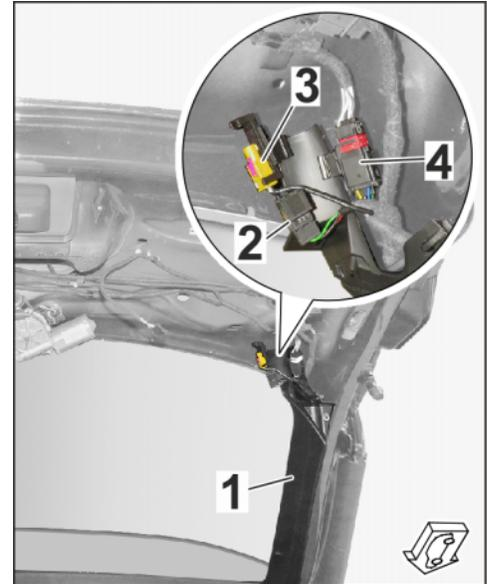

Figure 5
- 1.3.2 Remove plug / plug connection with retaining clip (⇒ *Figure 5 -Magnifier-*) from window frame trim panel.